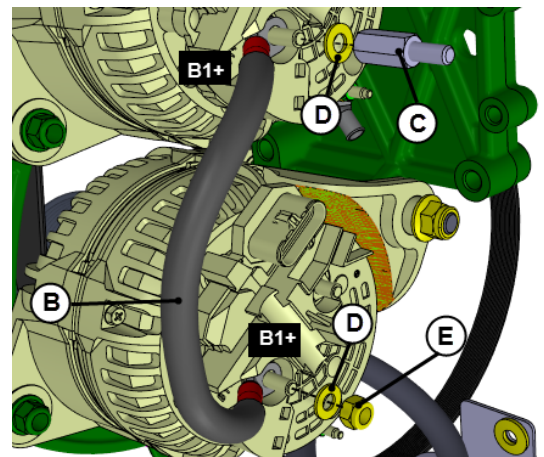

FIGURE 18
23. Connect jumper cable **B** to **B1+** stud terminal of the upper alternator and the lower alternator using hardware shown on **FIGURE 18**.